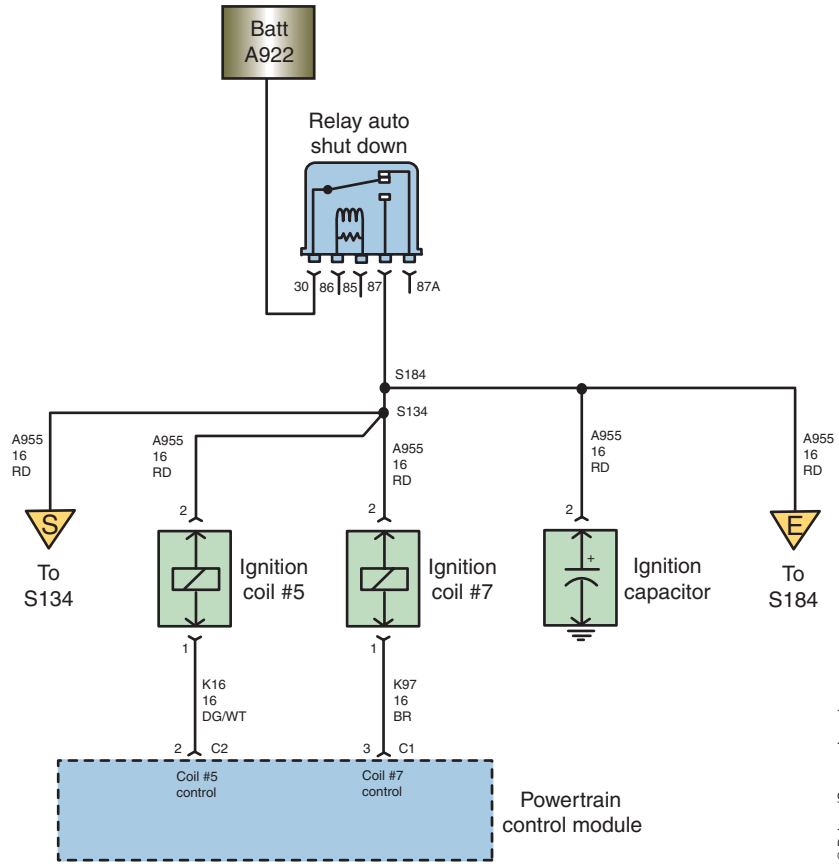

FIGURE 4-36a
10. Referring to Figure 4-36a through d, the coil for cylinder 4 and the injector for cylinder 3 both fail to function. What is the possible cause?